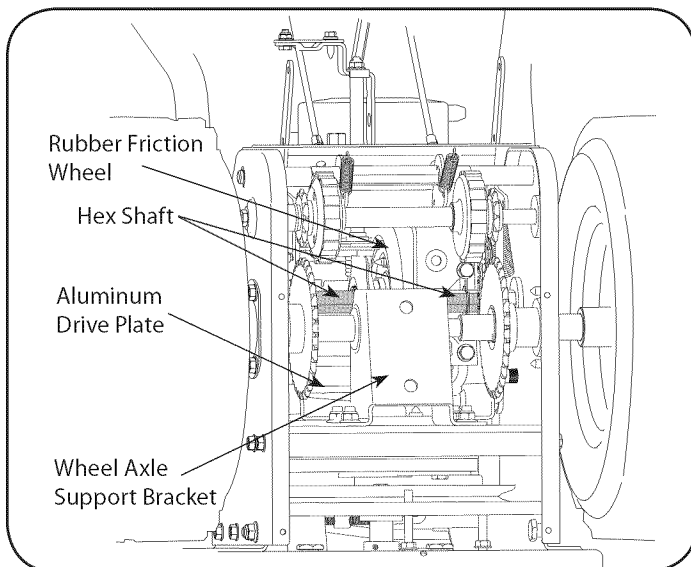

Figure 22
At least once a season or after every 25 hours of operation, remove rear cover. Lubricate all chains, sprockets, gears, bearings, shafts, and the shifting mechanism. Use engine oil or a spray lubricant. Refer to Figure 22.
3. Apply a light coating of engine oil (or 3-in-1 oil) to the hex shaft. See Figure 22.